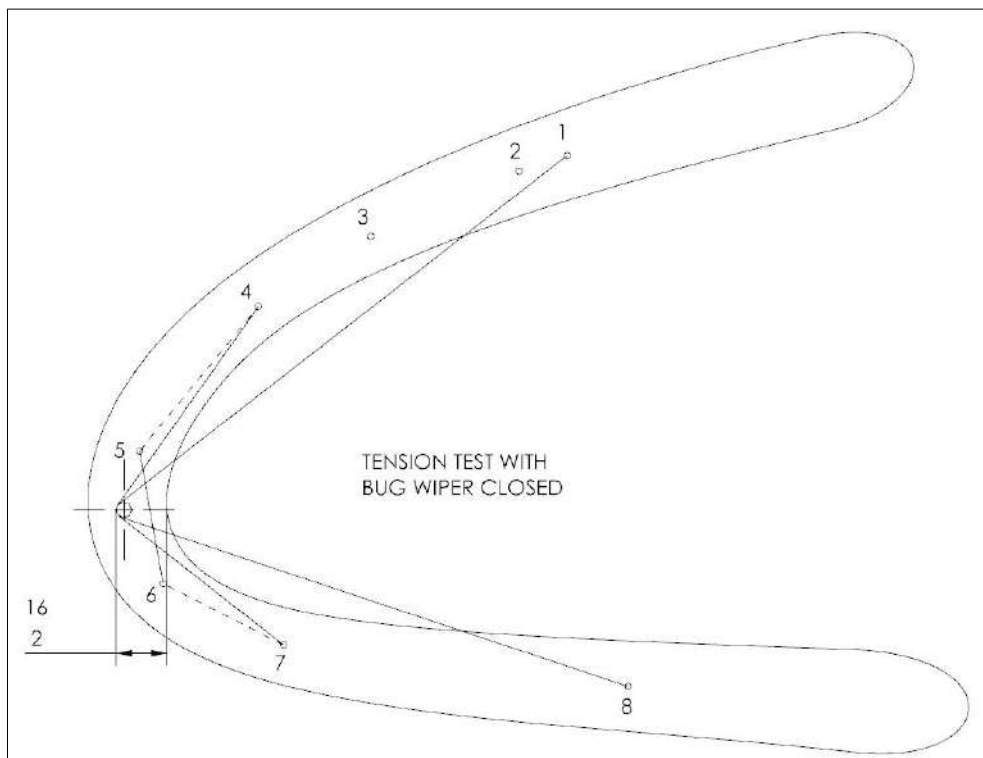

Figure 57-5: Bug wiper string check
5. Remove the bug wiper angle tool and tug at the string. Test the bug wiper string length. With the bug wiper closed, the strings should cross each other on the bug wiper blade surface (Figure 57-5).